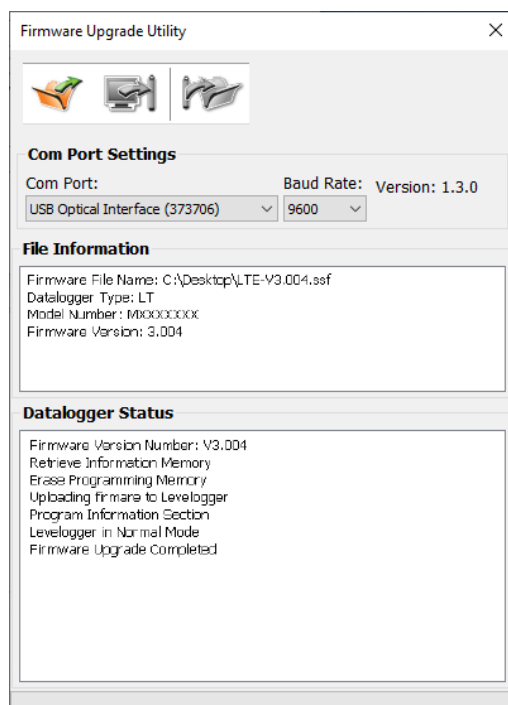

Figure 12-1 Firmware Upgrade Utility Window
- 5) If a communication error occurs and is indicated in the ‘Datalogger Status’ section (Figure 12-1) either before the “Verified Program Checksum” message or after the “Program Information Section”, then restart the upgrade process.